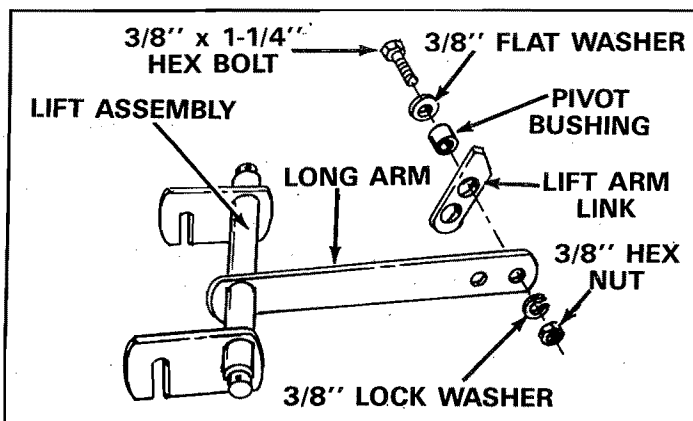

FIGURE 12
- Pre-assemble lift arm link to **inside** of long arm on lift assembly. As shown in figure 12.
- Assemble one 3/8" x 1-1/4" hex bolt through 3/8" flat washer, through pivot bushing, through large hole in lift arm link near angle end and through hole in long arm nearest the end. Secure with one 3/8" lock washer and one 3/8" hex nut. See figure 12. **NOTE: Lift arm link must pivot freely.**
Lift arm link must be positioned as shown in figures 12 and 13.